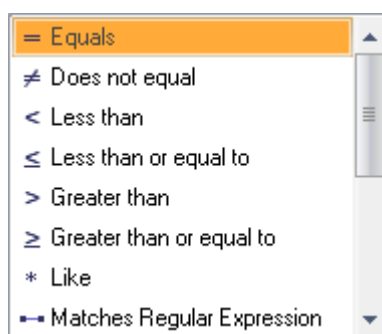

Figure 7-27. Level drop-down menu of Custom Filter dialog
9. Click  of the left column to open the drop-down menu for **Level**, see Figure 7-27.